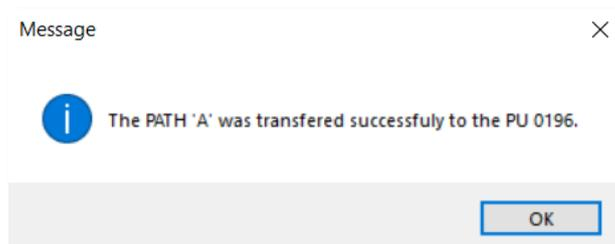

Figure 349 - Message of successful exportation.
6. The exportation is complete (Figure 349).